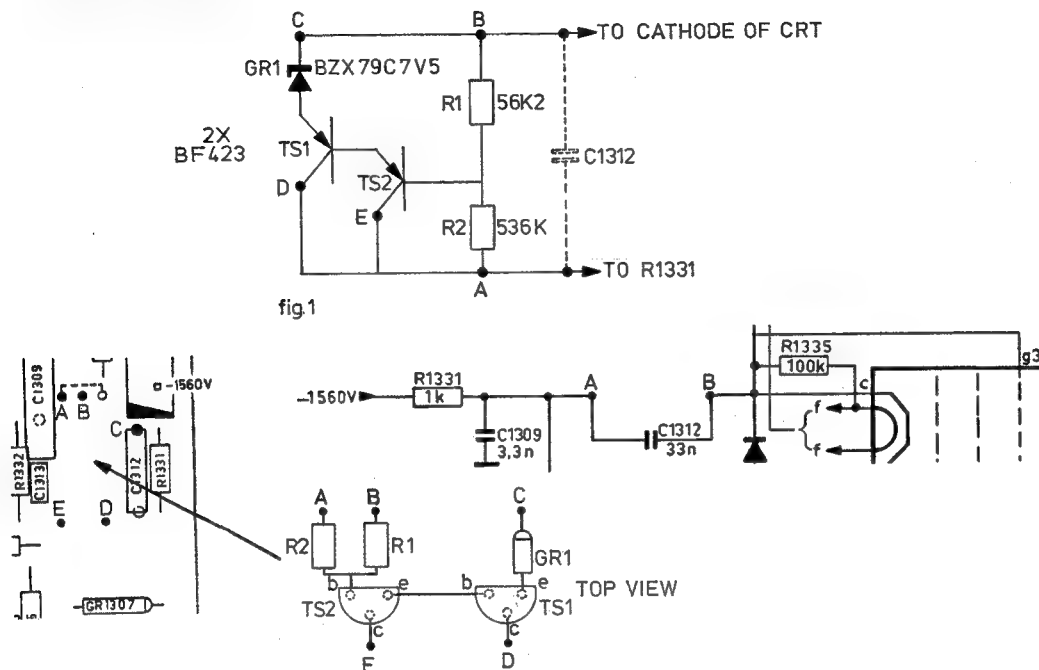

Fig. 2. Part of Z-unit (fig. 3.42 and 3.43 of the manual).
- Solder the parts together as indicated in fig. 2.
- Solder the resistors R1 and R2 and the diode GR1 on the points A, B and C of the Z-amplifier (see fig. 2).